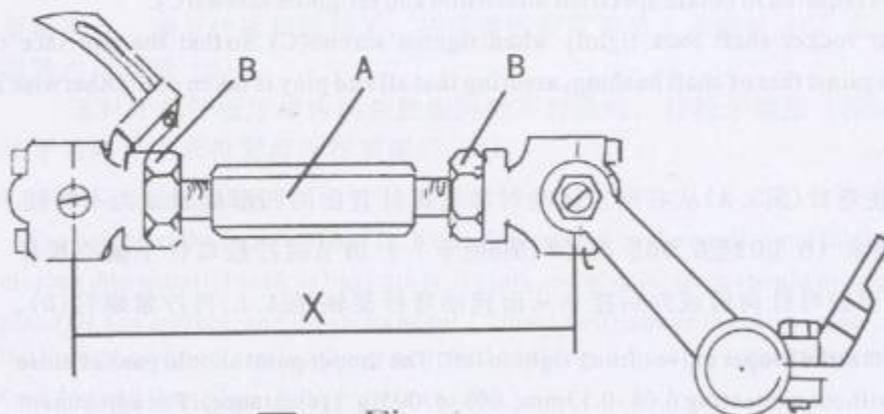
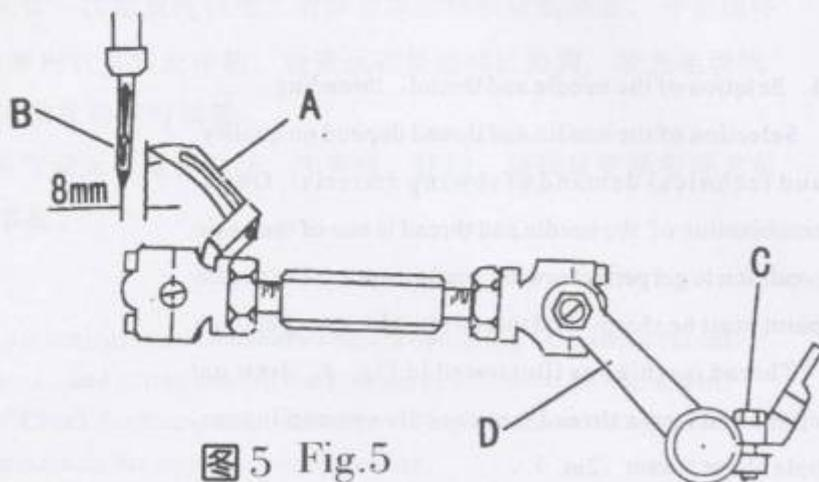
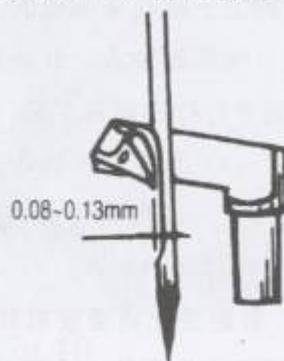
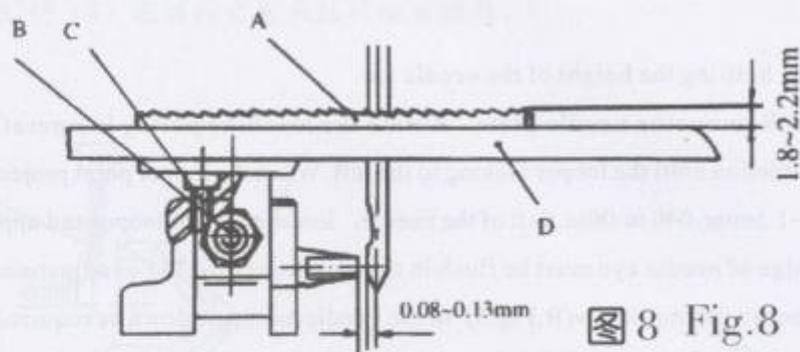

图4 Fig.4
图5 Fig.5
图6 Fig.6
图8 Fig.8
(一) 首先调节连接杆(图4, A),使两球轴承(X)中心线间距为69.8毫米( $2\frac{3}{4}$ 英寸),调节时拧松二个螺母(B),顺旋或倒旋连接杆(A)使(X)距离符合要求后再锁紧螺母。
(1). First set the looper connecting rod(A, Fig. 4), so the distance (X, Fig. 4) between the centerlines of the two ball joints is 69.8mm( $1\frac{3}{4}$  in.). For adjustment loosen the two nuts(B) and turn connecting rod (A) forward or backward as required to obtain specified dimension. Retighten nuts(B). Caution: The left nut has a left hand thread.
(二) 用手顺时针方向旋转皮带轮,使针杆下移至最低点,同时弯针退至最右边位置,此时弯针(图5, A)尖和机针(B)的中心线距离为8毫米( $5/16$ 英寸)。调节时拧松弯针外曲柄的两只螺钉(C),左右转动弯针外曲柄(D),调节至需要的尺寸后再拧紧螺钉(C)。
(2). Rotate the machine pulley clockwise by hand, so that the needle bar moves to the lowest point, at the same time the looper moves back to its farthest position to the right. The distance from the point of the looper (A, Fig. 5) to the centerline of the needle is 8mm( $5/16$  in.). For adjustment, loosen two screws(C) in the looper drive lever, rotate looper drive lever(D) left or right as required to obtain specified dimension and retighten screws(C).
(三) 继续转动皮带轮,使弯针(图5, A)从右向左运动时靠近机针背面的凹形处通过而不得接触,其间隙为0.08毫米-0.13毫米(0.003至0.005英寸)(图6所示)。调节时拧松弯针小偏心摇杆(图4, C)的螺钉(图4, D),按需要把弯针向前或向后摆动从而转动弯针架轴(图4, E)再拧紧螺钉(D)。
(3) Rotate the machine pulley so that the looper moves from right to left. The looper point should pass as close possible to the back of the needle without contacting 0.08 - 0.13mm (.003 to .005 in.) (clearance). For adjustment loosen screw(D, Fig. 4) in the looper eccentric fork (C) and turn rocker shaft (E) on the looper rocker with looper forward or backward as required. Retighten screw (D).
缝纫时由于袋边接接处厚度不一致，往往会使机针刺在缝料厚薄交界处而弯曲或发生故障，而机针挡块(图5E)则可起到保护作用。两者的间隙为0.08~0.13毫米(0.003至0.005英寸)，(图8所示)。调整时将皮带轮按工作方向转动，使机针挡块靠近机针，拧松牙架上(图5, F)紧定螺钉(G)，移动机针挡块(E)至合适间隙后再拧紧螺钉(G)。
The needle will bend or break when abutting bags made of different thickness of sewing material. And the needle guard (E, Fig. 5) will protect the needle. The clearance between the needle and the needle guard is 0.08 -0.13mm (.003 to .005in. )(Fig.8). For adjustment, rotating pulley in the direction of operating, so that the needle guard moves against the needle. Loosen set screw(G) on feed dog holder(Fig.5), move the needle guard accordingly. Retighten screw (G).
根据缝料质量与厚度确定送料牙(图8, A)高度。对于布袋、塑料编织袋等薄料，齿面应高出针板(D)上平面约1.8毫米(0.070英寸)，麻袋约2.2毫米(0.090英寸)，调整时先将送料牙行至最高点，卸下针板和送料牙。按需要的高度调节支承螺针(C)后，重新装上送料牙和针板，并固紧六角螺母(B)。
The height of the feed dog(A, Fig. 8) are determined by the quality and thickness of the sewing materials. For closing thin material such as bags made of cloth and plastic, teeth should project 1.8mm(.070in.) above the throat plate(D) top surface, and for sacks about 2.2mm (.090) above the throat plate. For Setting, move the feed dog to the highest position, remove throat plate and feed dog, adjust the supporting screw (C) as required, remount the feed dog and throat plate. Retighten screws (B).